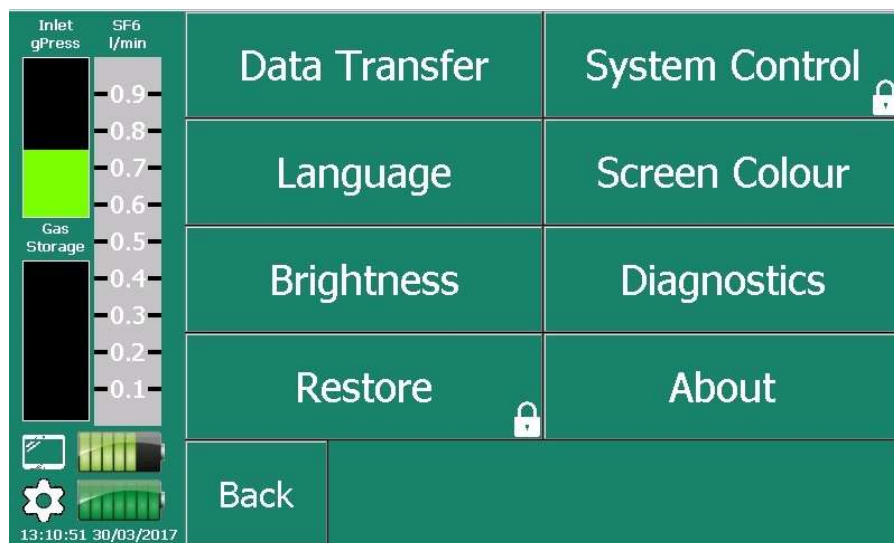

Figure 49: List of options Menu. The “Data Transfer” option remains grey until a suitable USB memory stick is attached.
The Options Menu displays various settings that the user may use to set the analyser up initially. Also included here are some diagnostics and other system tools. The “Data Transfer” button remains grey until you insert a memory stick into the socket (8) as shown in Figure 49. If padlocks are displayed then these options are password protected. See 7.9 for more information on passwords.